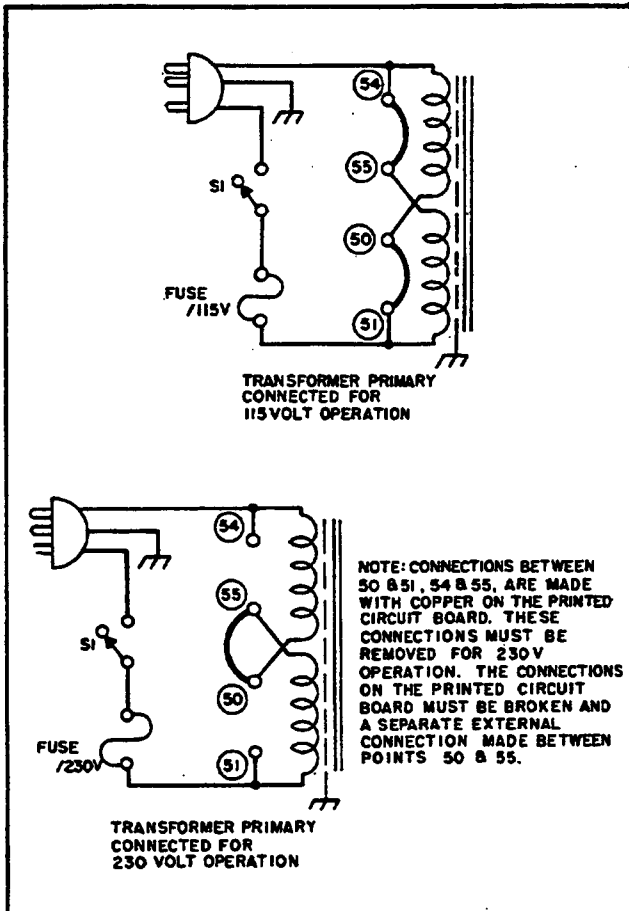

Figure 2-4. Primary Connections
2-19 CONNECTIONS FOR 230 VOLT OPERATION (Figure 2-4)
- Break the copper between 54 and 55 and also between 50 and 51 on the printed circuit board. These are shown in Figure 2-4 and are labeled on copper side of printed circuit board and on schematic.